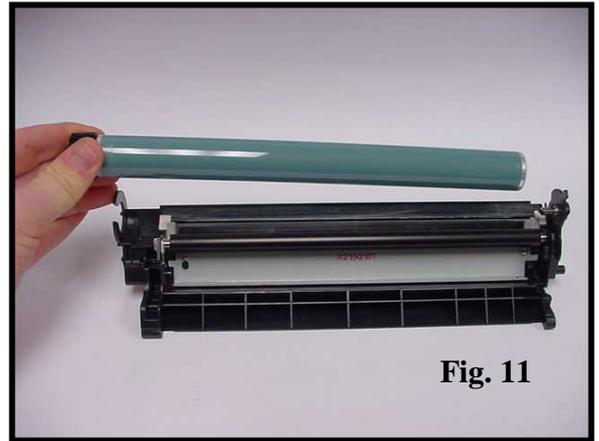

Fig. 11
11. Grasp the drum by the gear and remove the drum from the cartridge (Fig.11). There is no need to remove the drum axle.